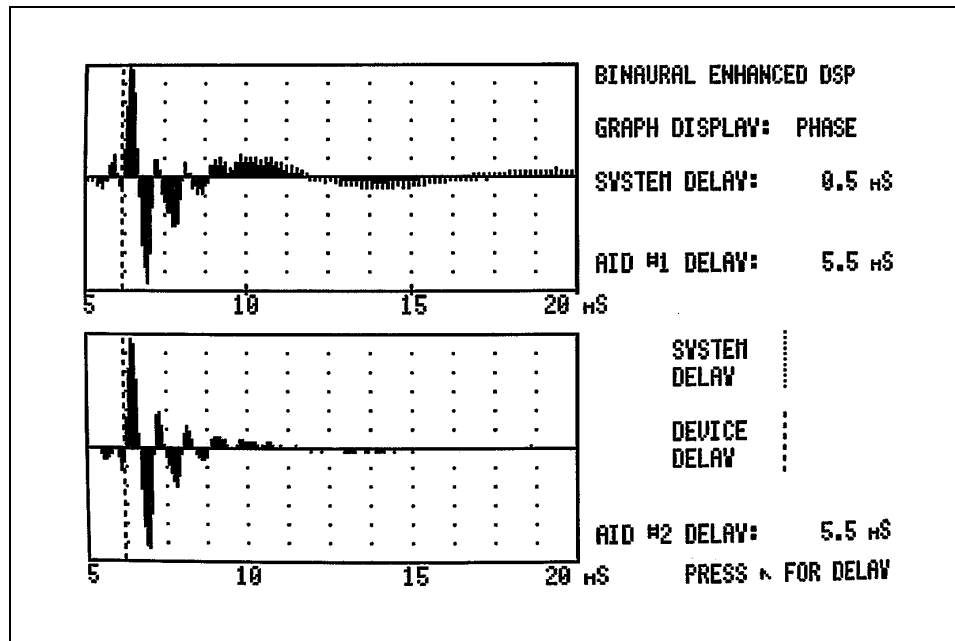

Figure 7.6.4B—Binaural Enhanced DSP phase graph
10. Press [v] to view the results of the signal phase measurement of both aids. See Figure 7.6.4B. Return to the delay results by pressing [^].